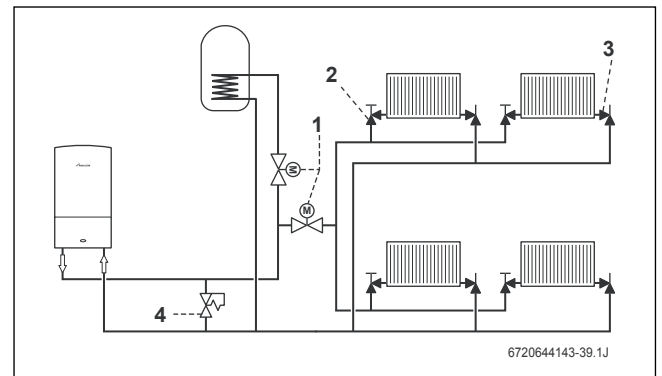
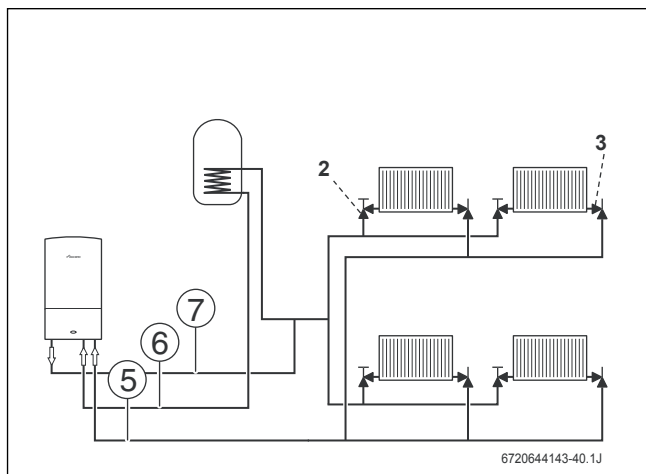

Fig. 7 S plan layout
Fig. 9 System layout with optional internal diverter valve (not supplied with boiler)
**Legend to Fig. 7 to Fig. 9:**